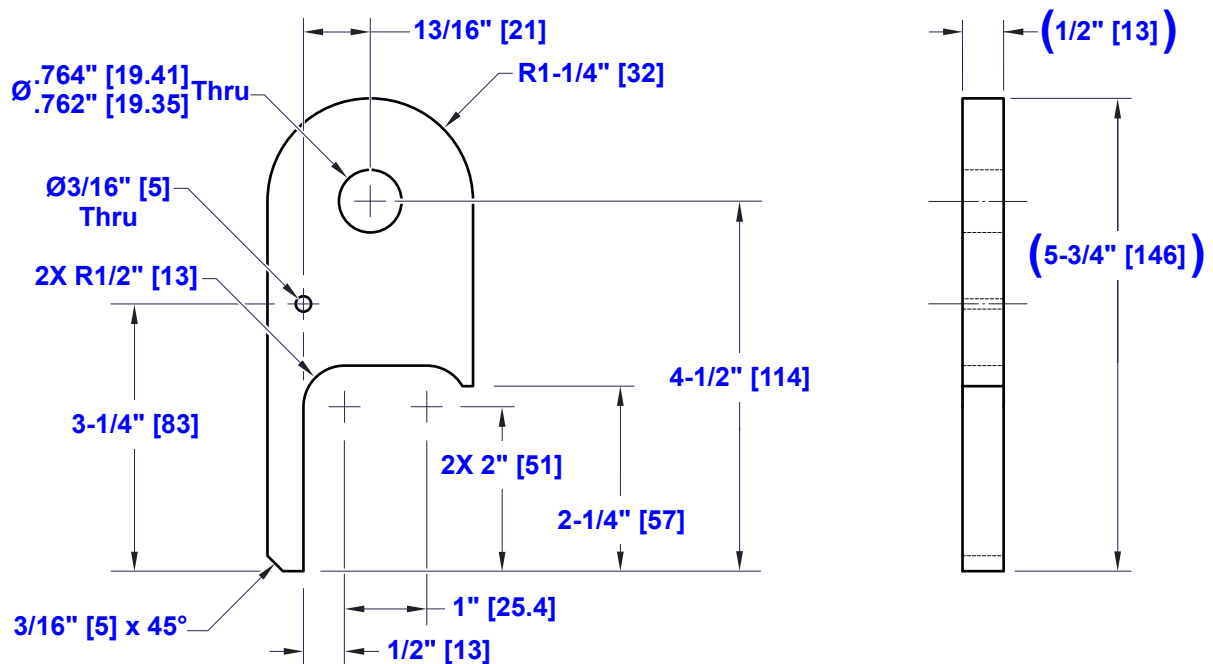
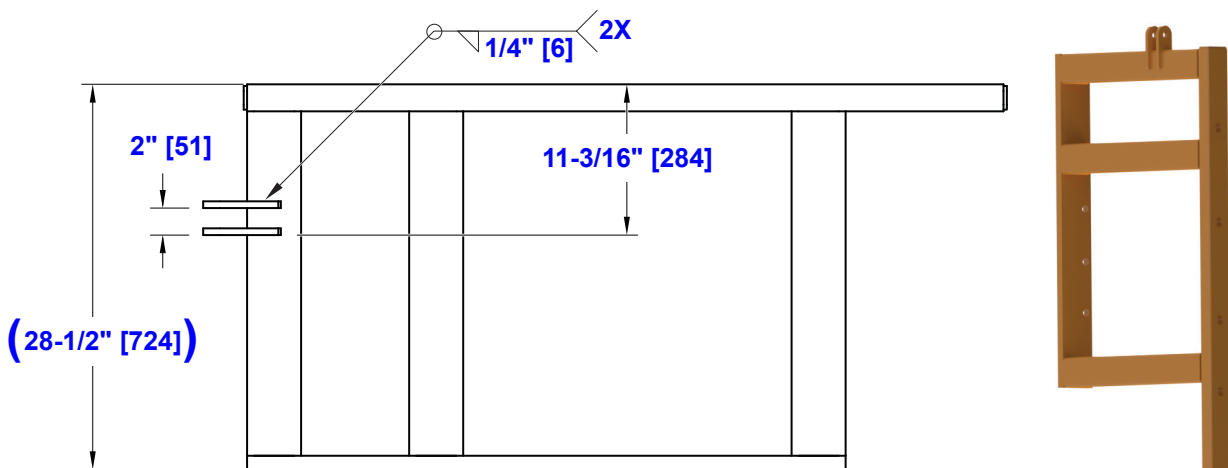

Figure 2: Pad-eye detail
Figure 3: Frame guard weldment
The blower assembly improvement will require two (2) prefabricated pad-eyes as shown in Figure 2 and welded to the locations indicated in Figure 3 for installation of the support arm assembly (AY28027). **Material: ASTM A36/Q235** is required for the two (2) pad-eyes.